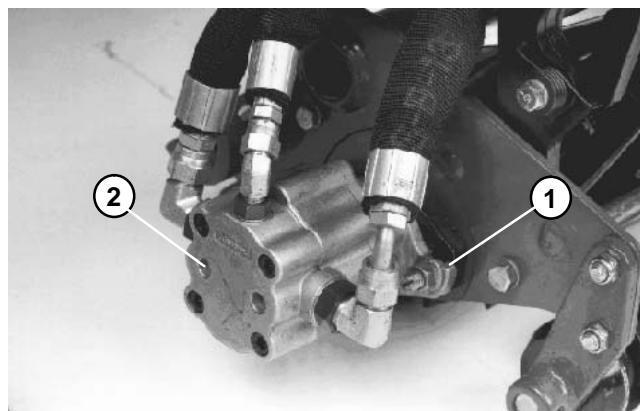

Figure 19
3. Loosen reel motor mounting nuts. Rotate motor clockwise so motor flanges clear studs. Pull motor off of cutting unit (Fig. 19).
3. Install motor onto the cutting. Rotate motor counter-clockwise so motor flanges engage studs (Fig. 19).